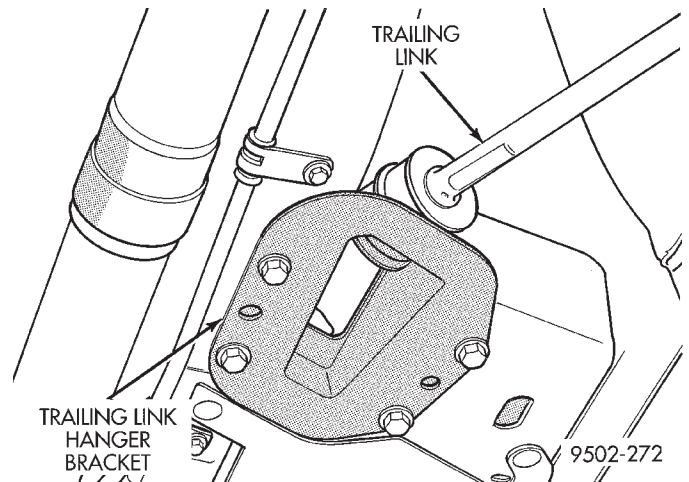

Fig. 36 Trailing Link Hanger Bracket Attachment To Vehicle
(4) Remove the 4 bolts (Fig. 36) attaching the trailing link hanger bracket to the floor pan and frame rail.
(5) Remove the trailing link and mounting bracket as an assembly from the vehicle.